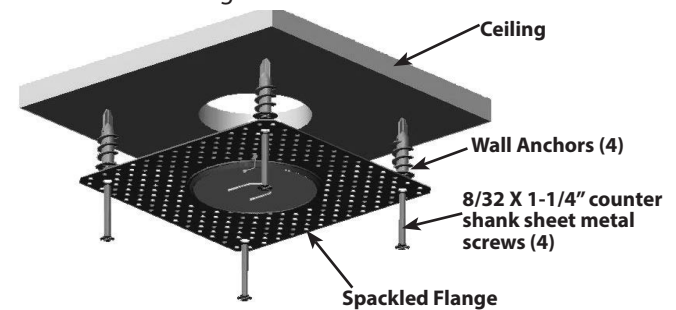

Fig: 4
3. For Remodeler Unit (Fig4): Use 5/16" drill bit and drill ceiling at 4 marked places. Install **Wall Anchors** and secure **Spackled Flange** with 8-32 X 1-1/4" flat head counter shank sheet metal screws.